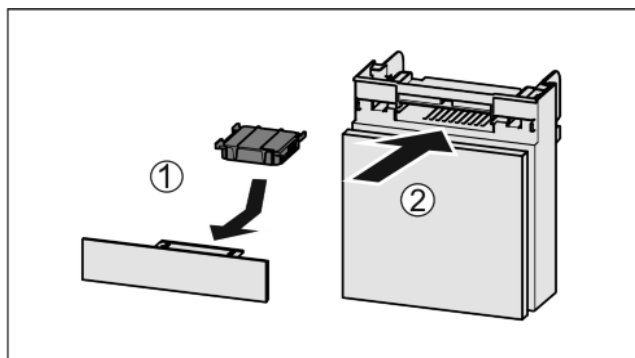

Fig. 43
- ▶ Insert the carbon filter as shown in the diagram Fig. 43 (1).
- ▶ Push the compartment in Fig. 43 (2).